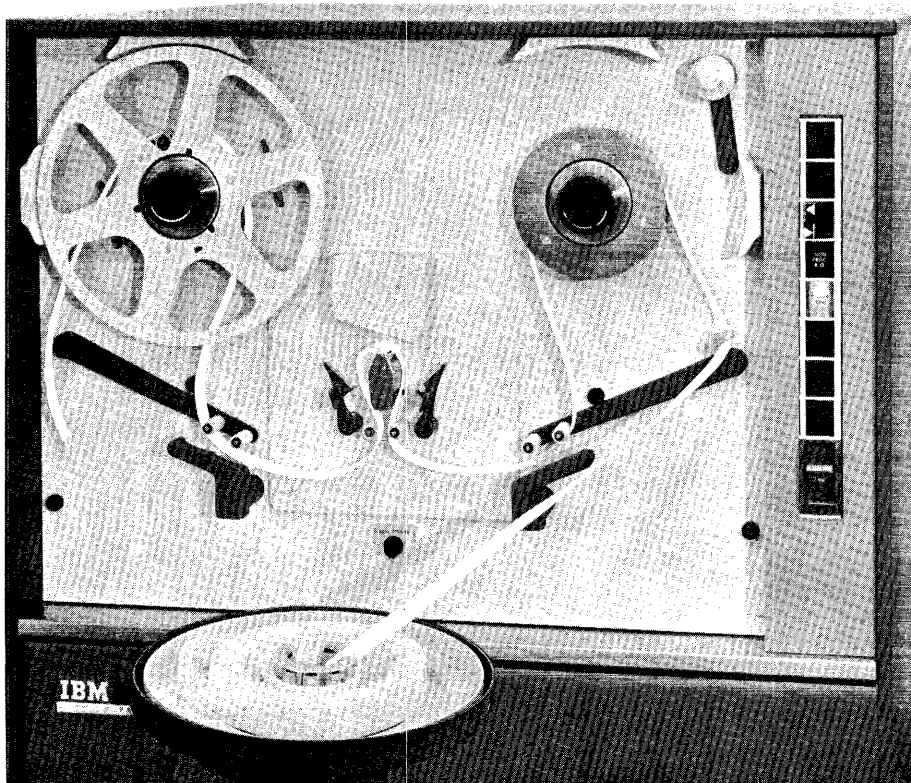

Figure 39. Threading Tape from Center Roll Feed
5. Thread the leading section of paper tape under the guide roller, between the stationary buffer rollers and buffer arm rollers, and onto the takeup reel, as shown in Figure 39.